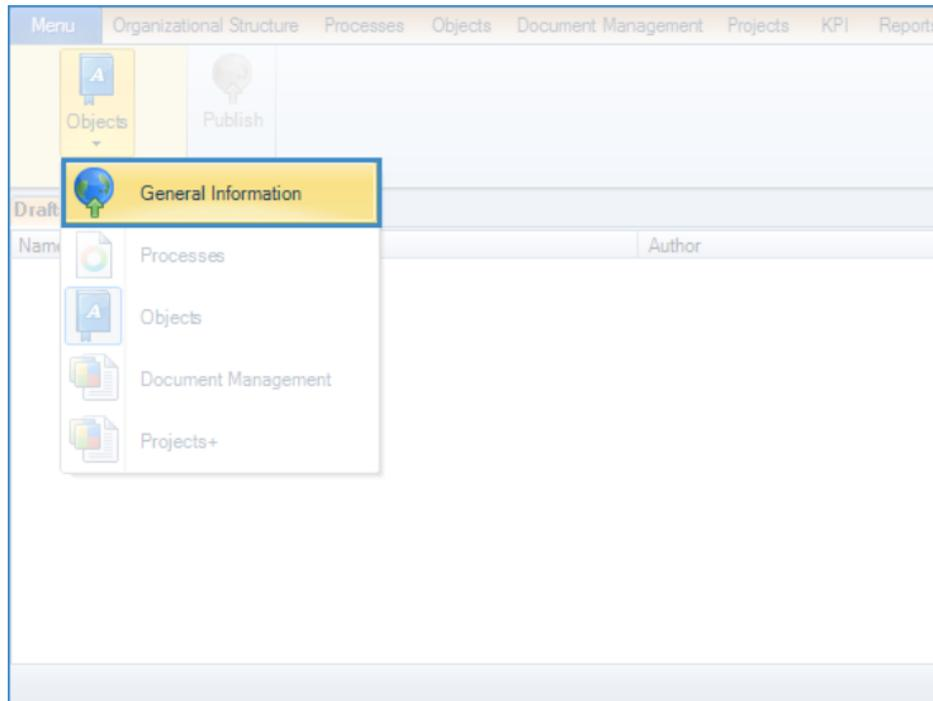

Fig. 13.
- Return to the **General Information** section on the **Publishing** tab of the Designer (Fig. 13);